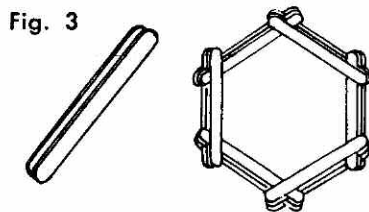

Fig. 3
2. Indent next 31 layers – each layer about 1/4 of the stick width closer to the center than the previous layer. (Fig. 3).